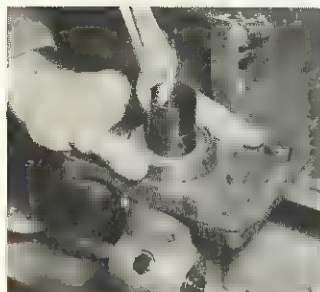

FIG. 63-1
4. Press down on the plunger guide cup, pull out the rod and remove the plunger guide cup, lower spring seat, plunger spring, plunger, spring ring, upper spring seat and control sleeve, Fig. 63-1.